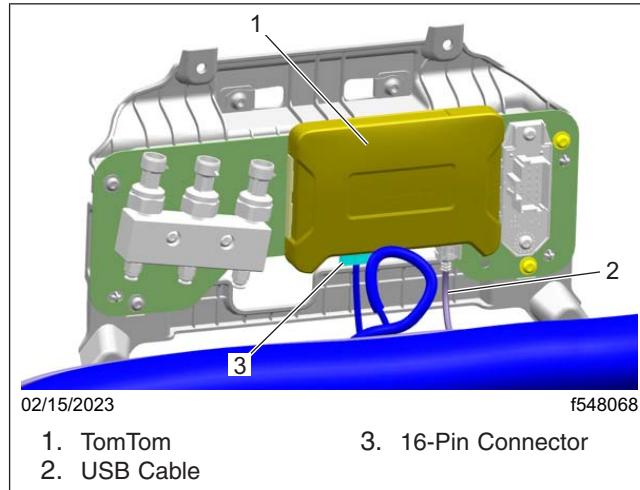

Fig. 23, Electrical Connections at the TomTom ECU
17. Plug the 16-pin connector and USB cable into the TomTom module. See Fig. 23.